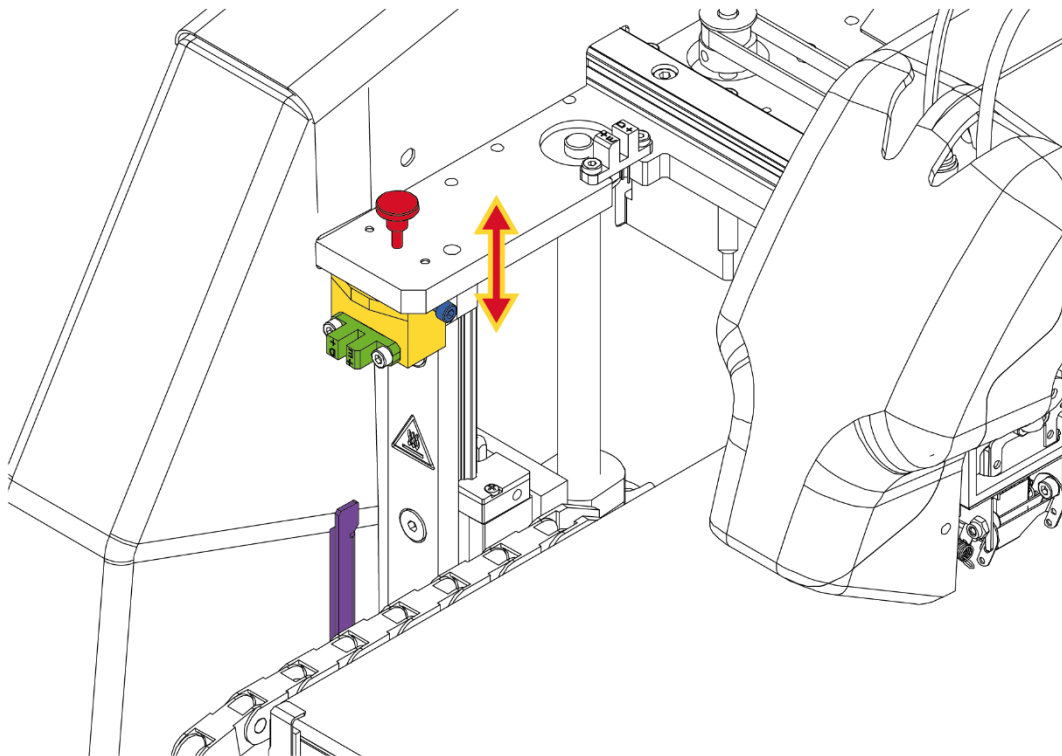

Fig. 37 Manual adjustment of the distance between the heatbed and T0 nozzle tip
**ATTENTION:** observe carefully the movement of all axes. When the Z axis breaker (fig. 37, violet colour) reaches the level of the Z axis endstop (fig. 37, green colour) and stops, check the distance between T0 nozzle and the heatbed using a feeler gauge. The distance should be about 0.8 - 1.5 mm. If the distance is larger, the heatbed scanning may be aborted and the "Heatbed scan aborted" error message may be displayed.
- b) Loosen the clamp bolt (fig. 37, blue colour) locking the slide (fig. 37, yellow colour).
- c) Adjust the distance by means of the thumbscrew (fig. 37, red colour). Tighten the thumbscrew to lower the slide and increase the distance between the nozzle and the heatbed. Unscrew the thumbscrew to rise the slide and bring the nozzle closer to the heatbed (fig. 37 red-yellow arrow).